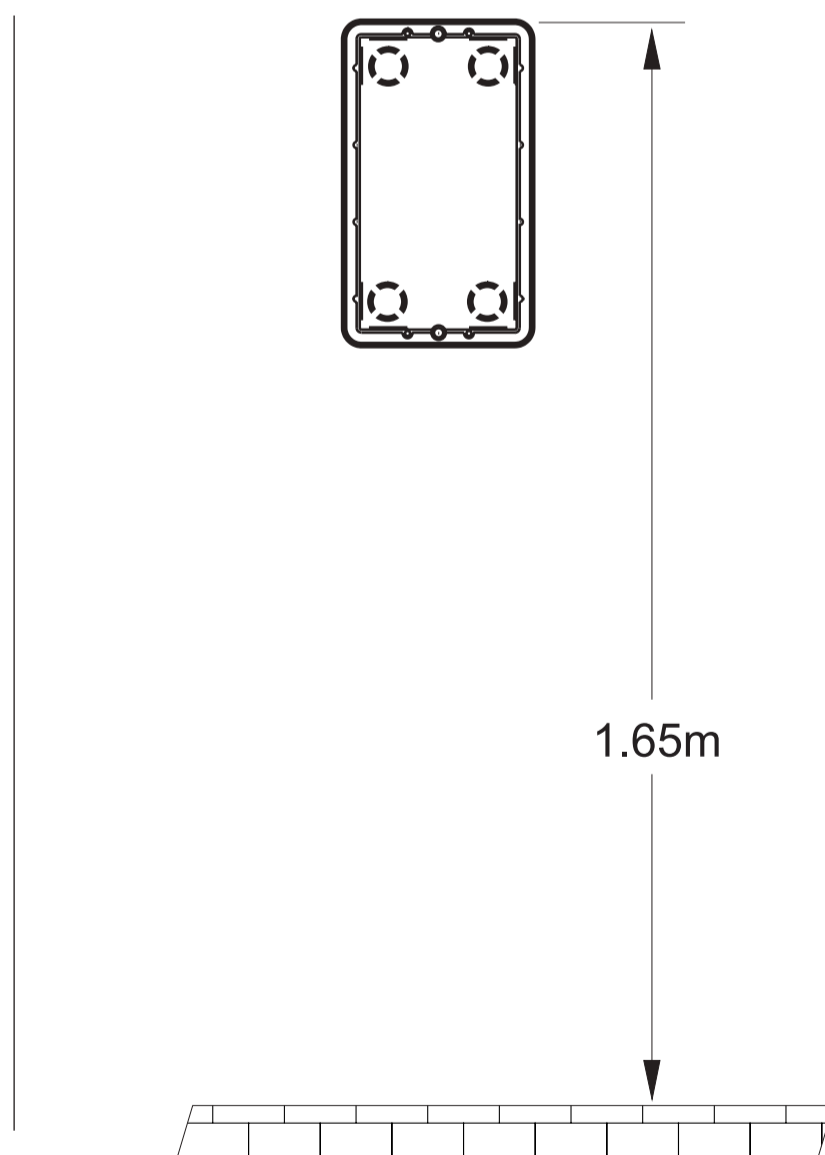

Fig.1b
- fix the recess box into the wall as shown in figure 1b.